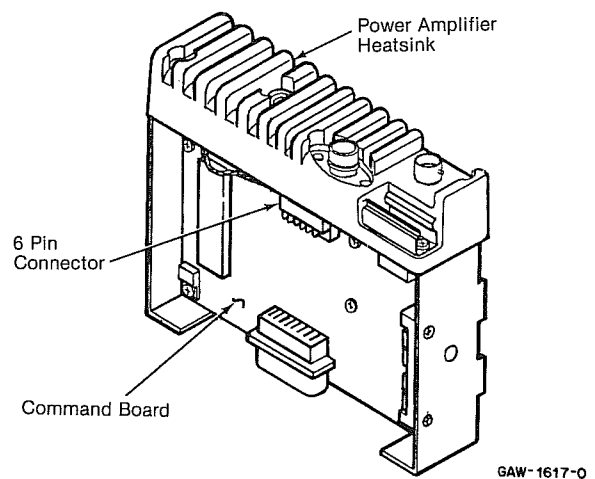

Figure 11
(1) Disconnect the right-angle six-pin connector from the logic board (Figure 11).